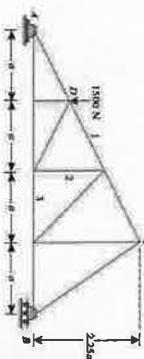

Fig. 29
- 9 A plane is loaded & supported as shown in Fig. 29. Determine the nature and magnitude of the forces in the members 1, 2 and 3